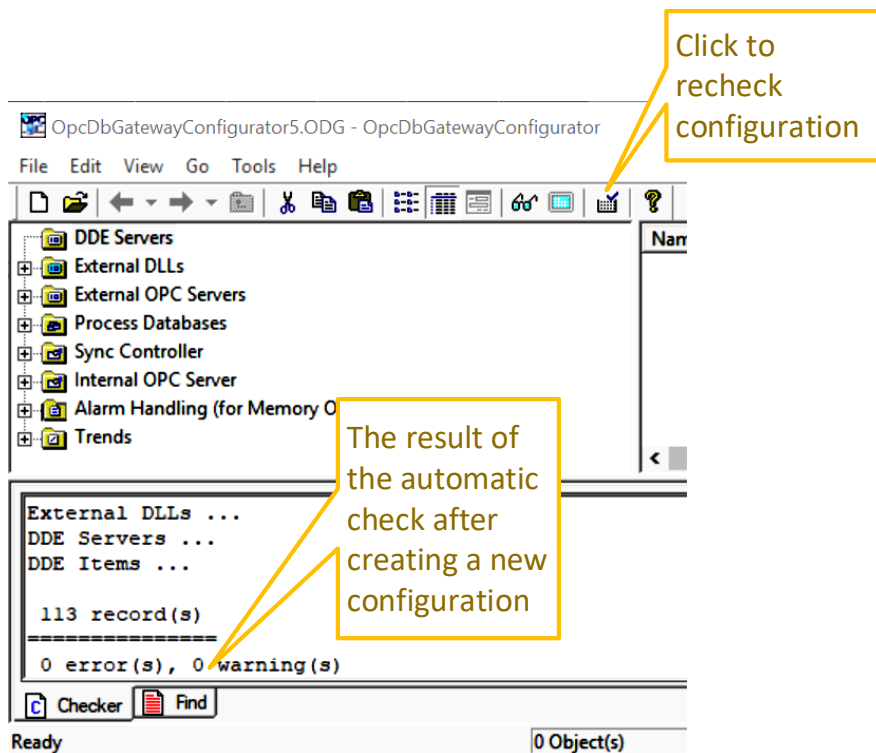

Figure 5 Check configuration after opening and editing
1. Create a configuration for the new application using the command in the menu File-> New. The first **automatic configuration check** is performed. (Figure 5).
5. Run the configuration check (Figure 5).